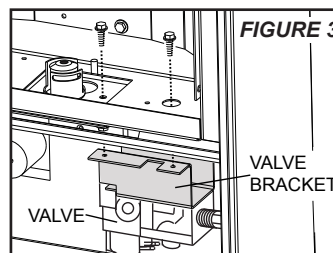

FIGURE 3
5. Remove the valve by first disconnecting the gas inlet then removing the two screws that secure the valve bracket accessed at the bottom of the firebox. (FIGURE 3)